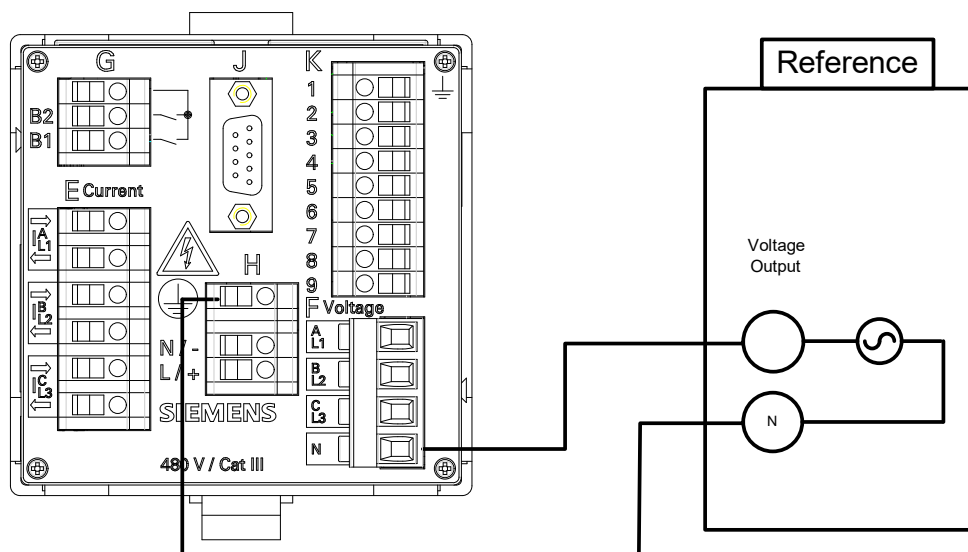
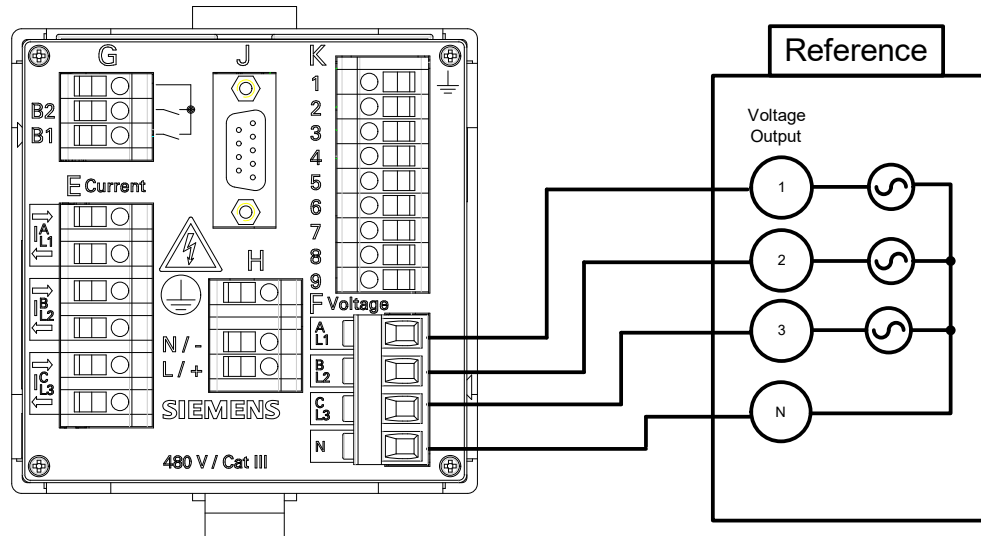

Fig. 10-7 Measurement Setup for Calibrating VN
Fig. 10-10 Measurement Setup for Calibrating VN
- ✧ Set up the measurement as shown in figure 10-7 or figure 10-10, acc. to device version.
- ✧ Set up the measurement as shown in figure 10-10.